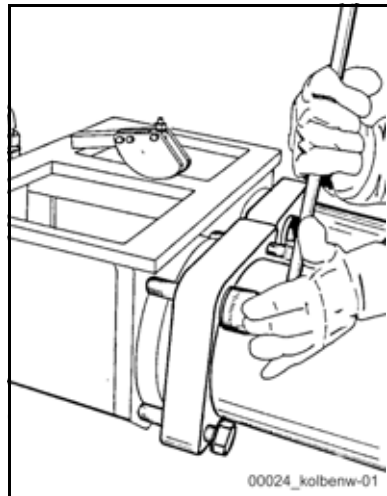

Fig. 320
- Tighten any loose fastening screws crosswise in three steps using a torque wrench (**Fig. 320**).